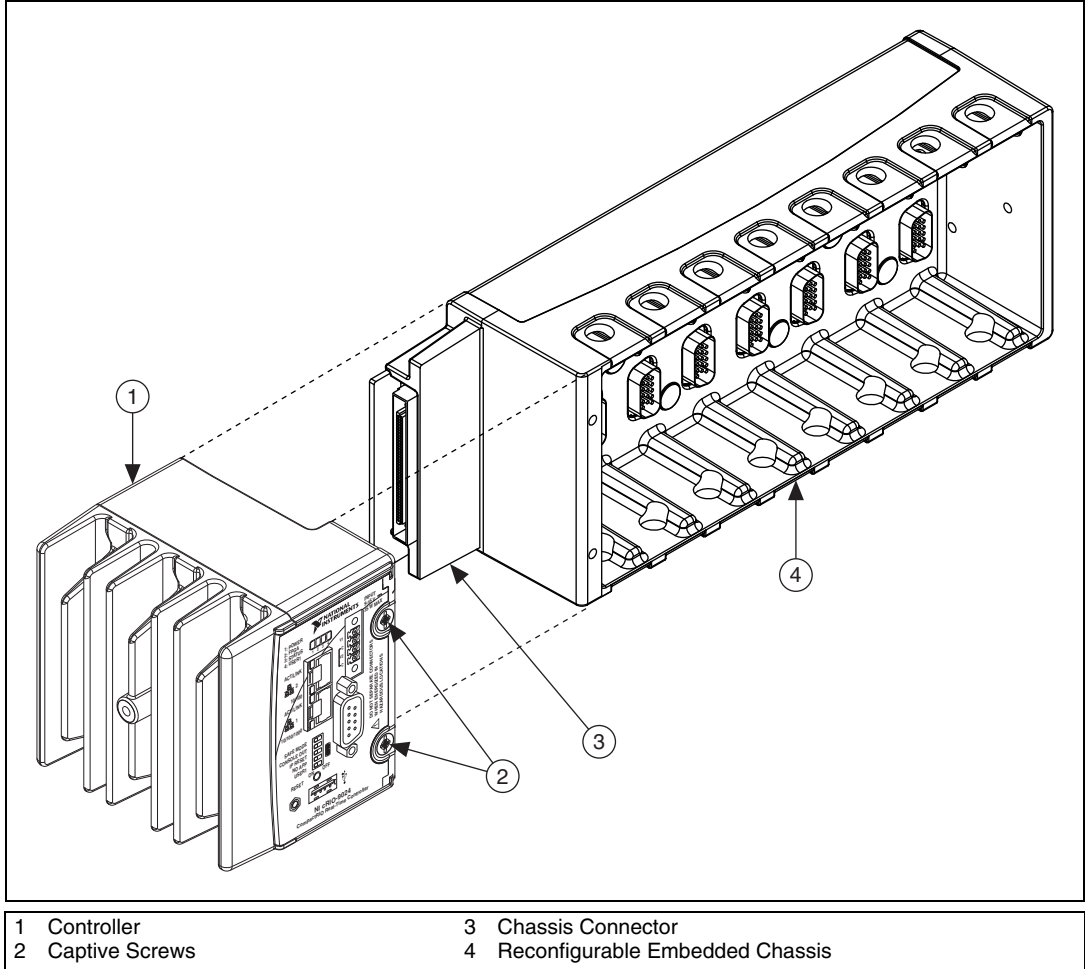

Figure 3. Installing the Controller on the Chassis (Eight-Slot Chassis Shown)
2. Align the controller with the chassis as shown in Figure 3.